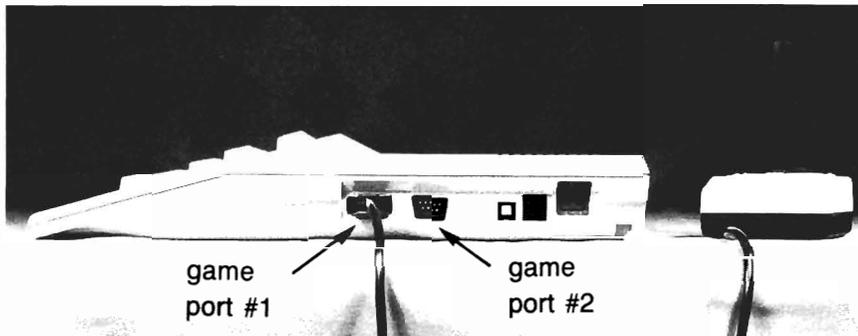

Fig. 9-3. The joystick connected to game port #1.
- Make sure the joystick is firmly seated in its game paddle port (Fig 9-3). Unplug it, and carefully plug it back in and see if it works.
In order to develop such a directional test, determine how information is sent from the joystick to the system unit, and how this information is accessed. This is a relatively simple process. The joystick is connected to one of two game ports located on the right side of the system unit (Fig. 9-3). One of the chips on the system unit's motherboard is an input port, accepting and processing input from these game ports.